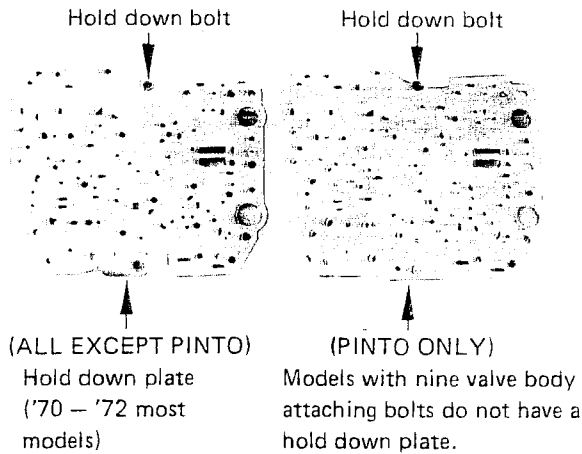
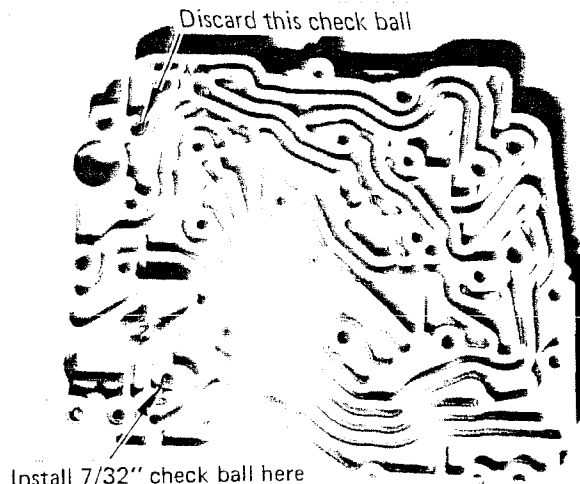
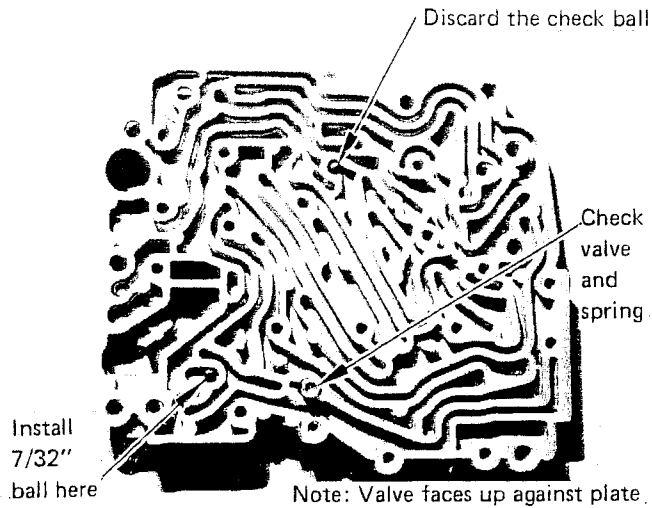

FIGURE 7
FIGURE 9 (ALL EXCEPT PINTO)
FIGURE 9A (PINTO ONLY)
STEP 11. Place the transfer plate assembly in front of you with the separator plate up. (See Fig. 7) Note the position of the hold-down plates. Remove the hold-down plates and the separator plate. Pinto only: There will be a check valve and spring under the separator plate. Remove it and set it aside.
STEP 14. Lay the transfer plate in front of you with the passages up. Install one 7/32" diameter ball in position shown in Figure 9. Pinto only: Install check valve and spring as removed with face of valve against separator plate. (See Fig. 9A) Install separator plate in place on transfer plate. Do not use a gasket. Install hold-down plates in their proper positions. (See Fig. 7) Install bolts in place and tighten bolts finger tight.